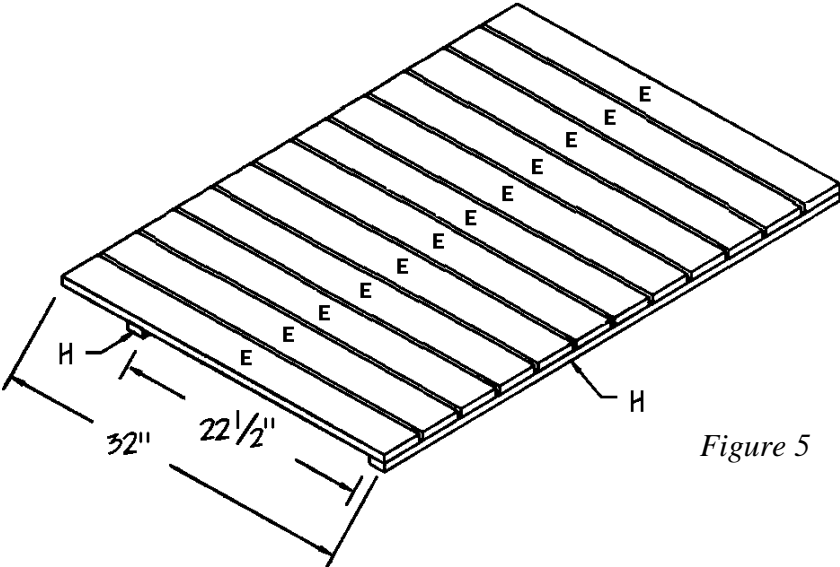

Figure 5
2. Cut two Back Supports (F) from 1 x 2 pine, each measuring 46 inches.
3. Place the two Back Supports (F) on a level surface, parallel to each other and 22-1/2 inches apart.
4. Place the 12 Back Slats (E) on top of the two Back Supports (F), spaced evenly, approximately 1/2 inch apart, as shown in *Figure 5*. Make sure that the Back Slats are square to the Back Supports (F). Note that the ends of all of the Back Slats (E) are even with one Back Support (F) at what will be the lower bench back. Screw through each of the Back Slats (E) into each of the Back Supports (F). Use two 1-1/4" wood screws at each joint.